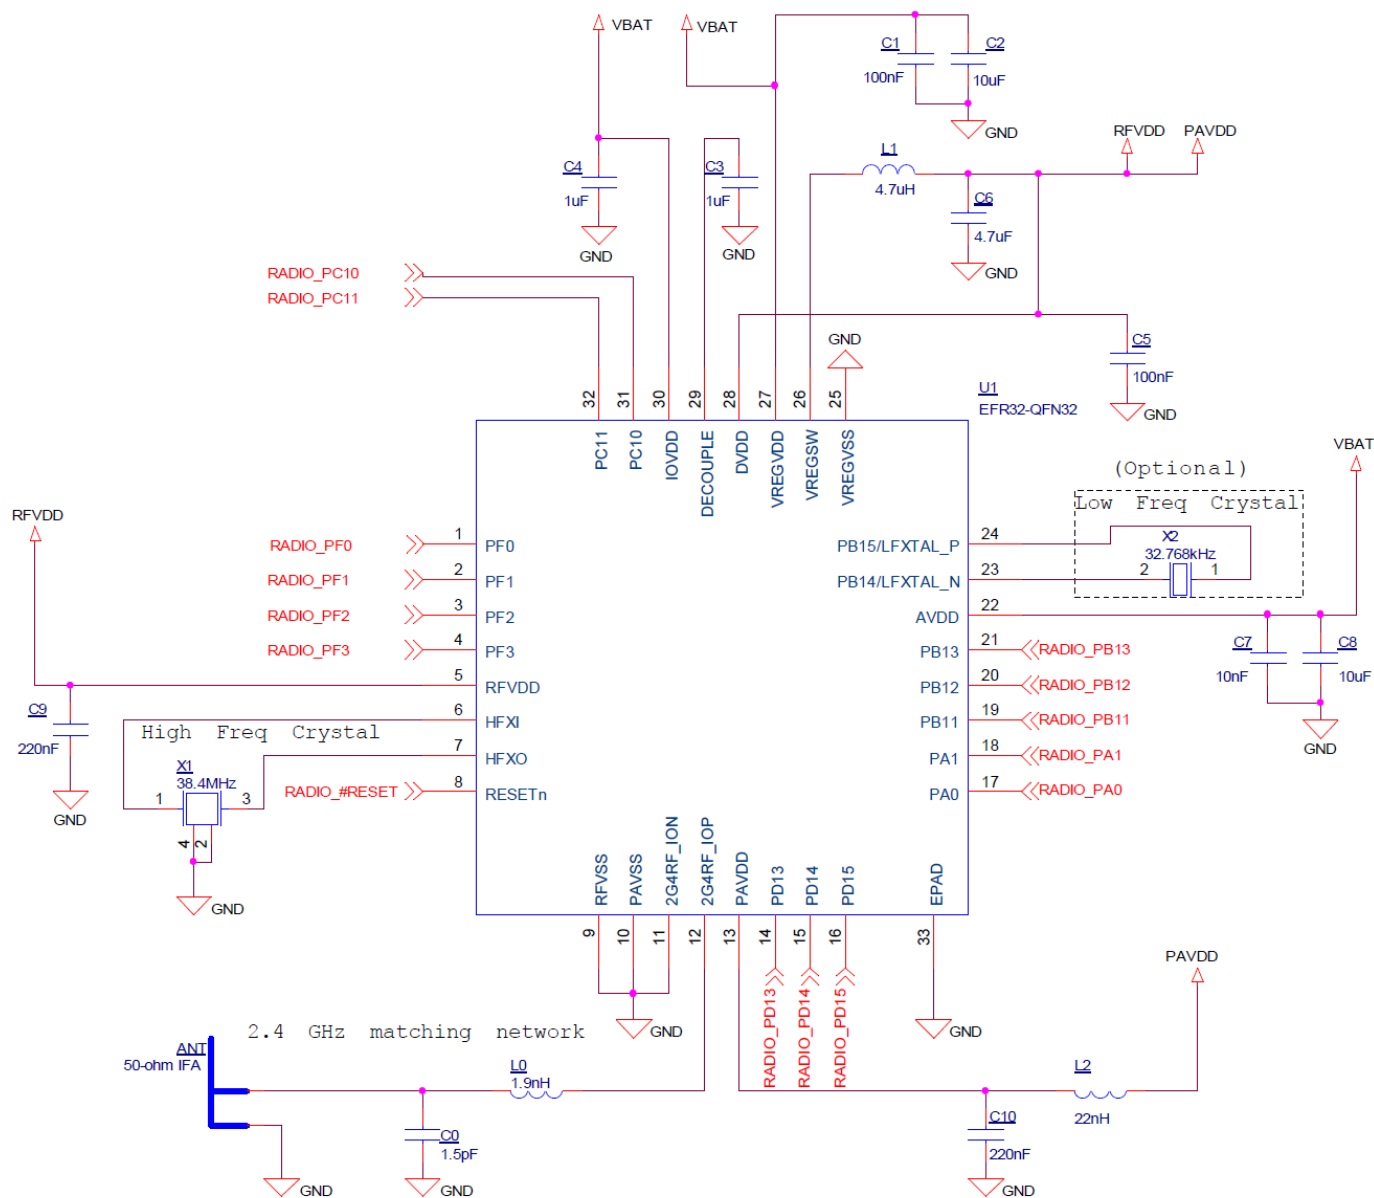

Figure 2.1. Minimal BOM 2.4 GHz Schematic for EFR32
The measurements were done on Silicon Labs' reference radio board: PCB4100A RevB00 based on the RF schematic shown in Figure 2.1 Minimal BOM 2.4 GHz Schematic for EFR32 on page 3.
- If the on-chip dc-dc converter is not used, the following components can be eliminated from the schematic shown in Figure 2.1 Minimal BOM 2.4 GHz Schematic for EFR32 on page 3 L2, L1, and C6.
- Ensuring 1-1 additional 10 pF capacitors on both RFVDD and PAVDD lines (in parallel with C9 and C10 in Figure 2.1 Minimal BOM 2.4 GHz Schematic for EFR32 on page 3) will enable better filtering effects at the RF frequencies, if the BOM and space is not so limited.